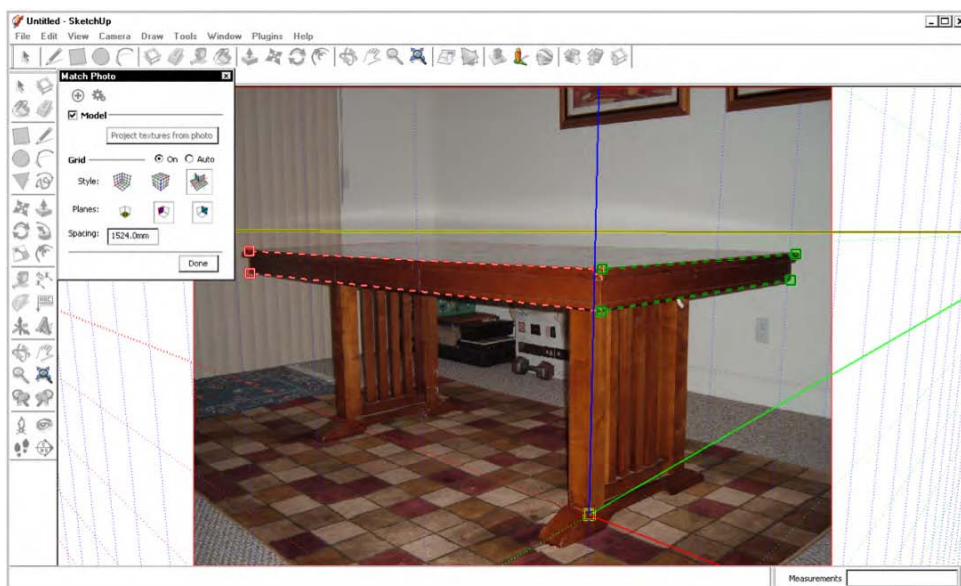

Figure 7-4. Match Photo imported table after alignment
3. Finally, click and hold the origin (yellow square); the cursor changes into a hand. Drag the origin, and align it perpendicular to the red and green vanishing point bars (Figure 7-4).